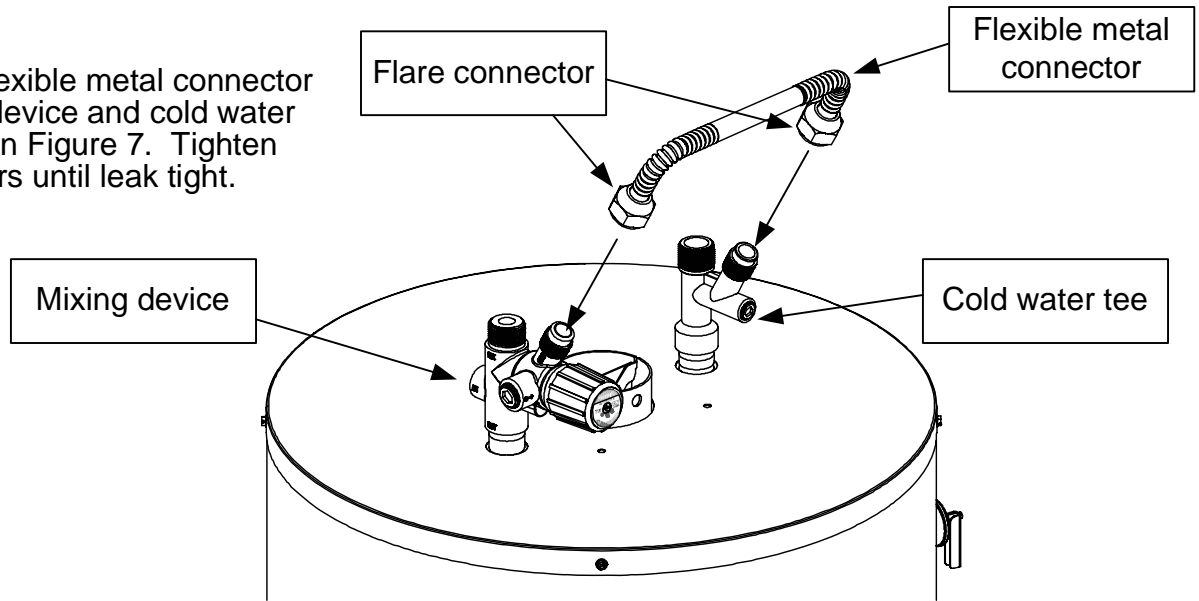

Figure 7
4. Install the flexible metal connector to the mixing device and cold water tee as shown in Figure 7. Tighten flare connectors until leak tight.